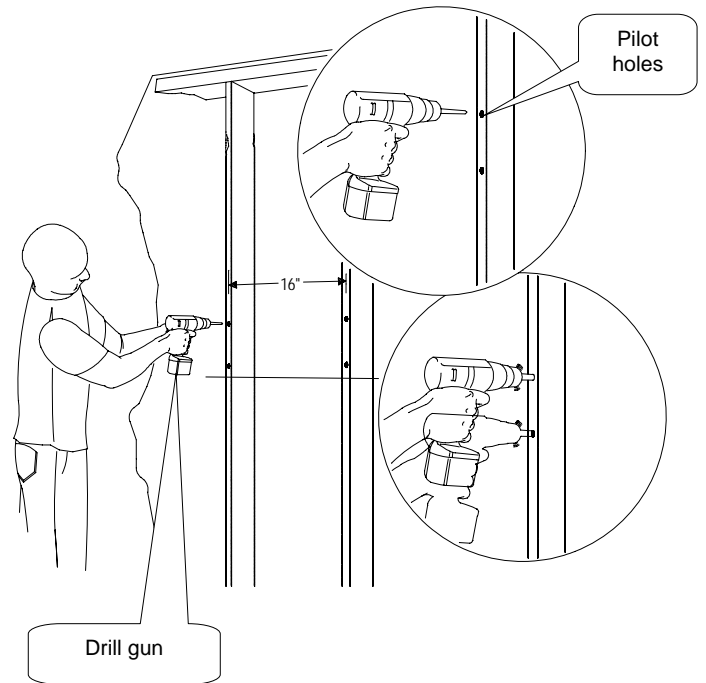

Figure 11
**Wood Studs:** Drill four (4)  $\frac{1}{4}$ " pilot holes to the marked wall.
**Concrete Wall:** Drill four (4)  $\frac{3}{8}$ " pilot holes to the marked wall. See Figure 11.